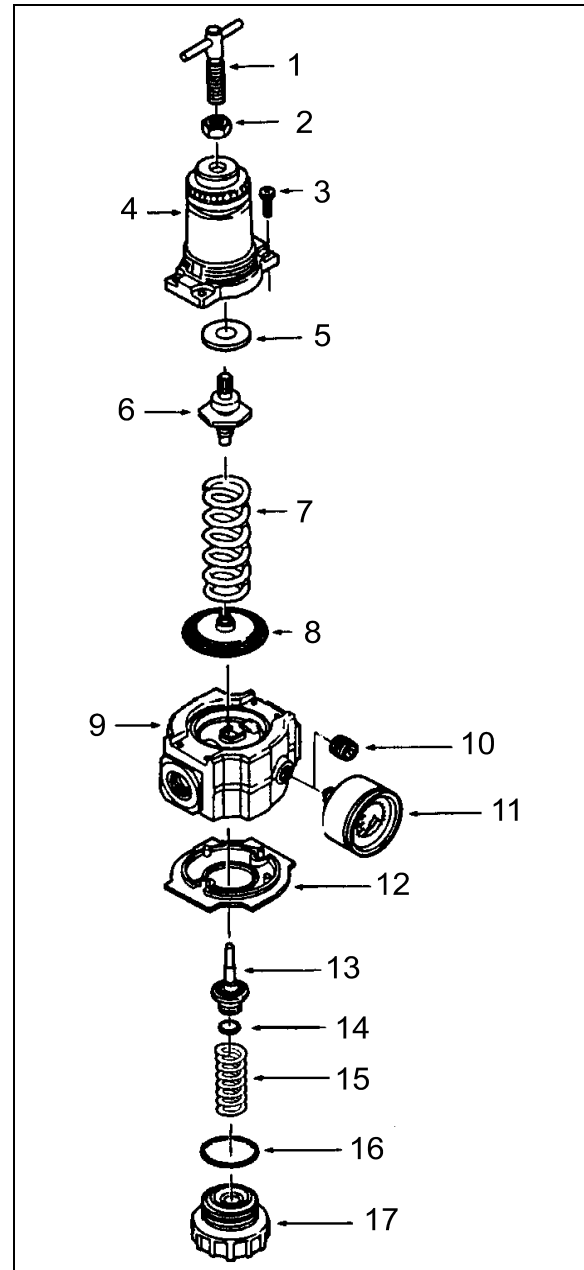

FIGURE 16: AIR PRESSURE REGULATOR
1. Before turning on system air pressure, release jam nut (2, Fig. 16) then turn regulator adjustment handle counter-clockwise until all load is removed from the regulating spring.
5. Tighten jam nut (2, Fig. 16) to lock pressure setting.
1. Shut off inlet pressure and reduce pressure in inlet and outlet lines to zero. Turn regulator adjustment handle (1, Fig. 16) counterclockwise until all load is removed from regulating spring. Regulator can be disassembled without removal from air line.
1. Lubricate O-ring (14 and 16, Fig. 16), valve stem (13, Fig. 13), tip of adjusting screw (1, Fig. 13), and the outer circumference and both sides of the thrust washer (8, Fig. 16) with a light coat of good quality O-ring grease.